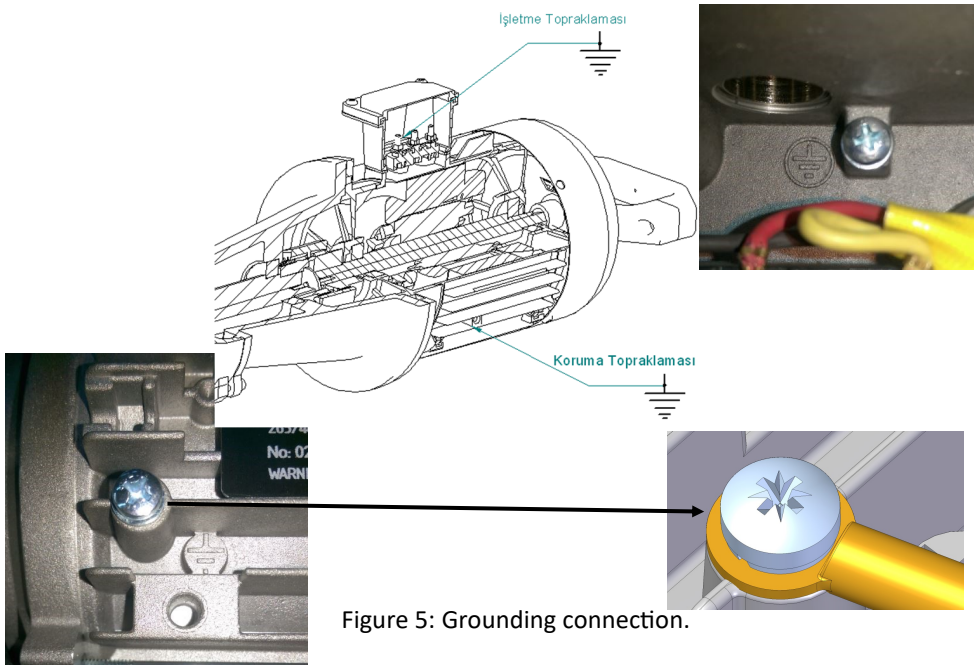

Figure 5: Grounding connection.
- The ground connection must be made as shown in Figure 5.